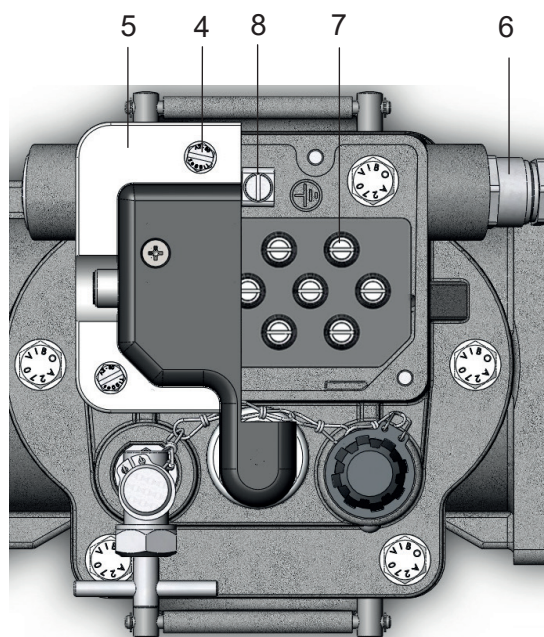

Figure 7 - Electrical connection for more than 8 bushings
- Maximum torque 1.5 Nm for terminal studs with more than 8 bushings (Fig. 7)